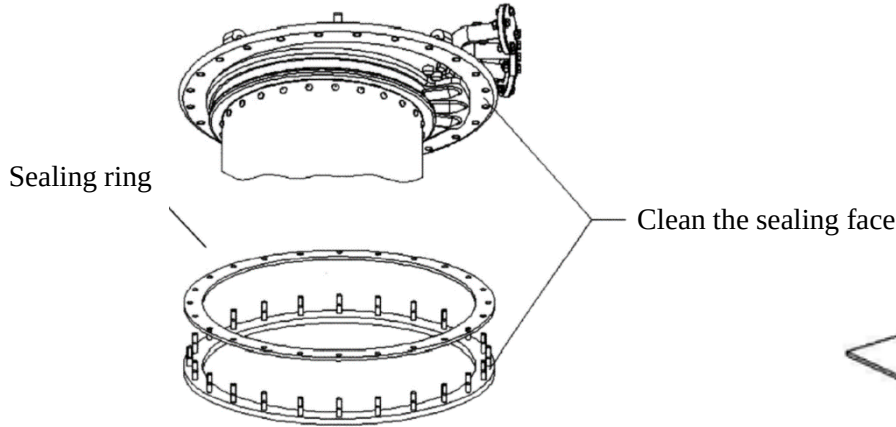

Figure 19 Sealing face
- 1) Clean the bottom sealing face of the tap-changer head flange as well as the surface of transformer mounting flange, and place a sealing gasket on it (Figure 19).